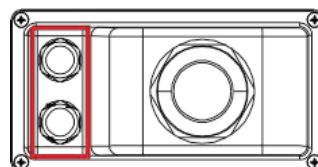

Figure 5.24
- Screw off the covers of "COM2" and "COM3" on the inverter as shown in Figure 5.24.